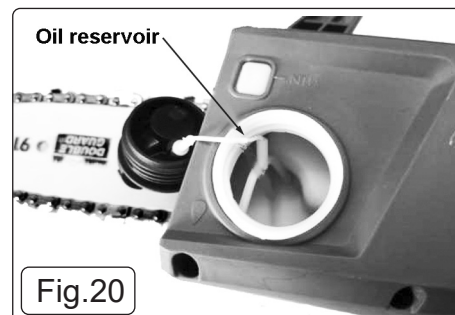

Fig.20
- 7.1.2. Fill the reservoir up to the bottom lip of the filler neck (fig 20).
- 7.1.4. Periodically check levels through reservoir window (fig 20).